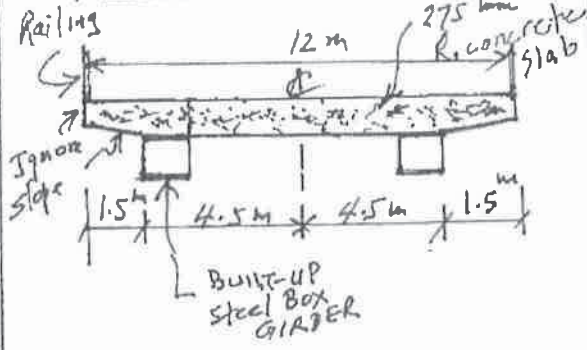

FIGURE 3
4. The cross-section of a composite steel-reinforced concrete bridge is shown in Figure 3. The bridge is to be designed as simply-supported, spanning one-way. The design span length and live load are given in Figure 3. Assuming complete interaction between the steel box girders and the concrete: